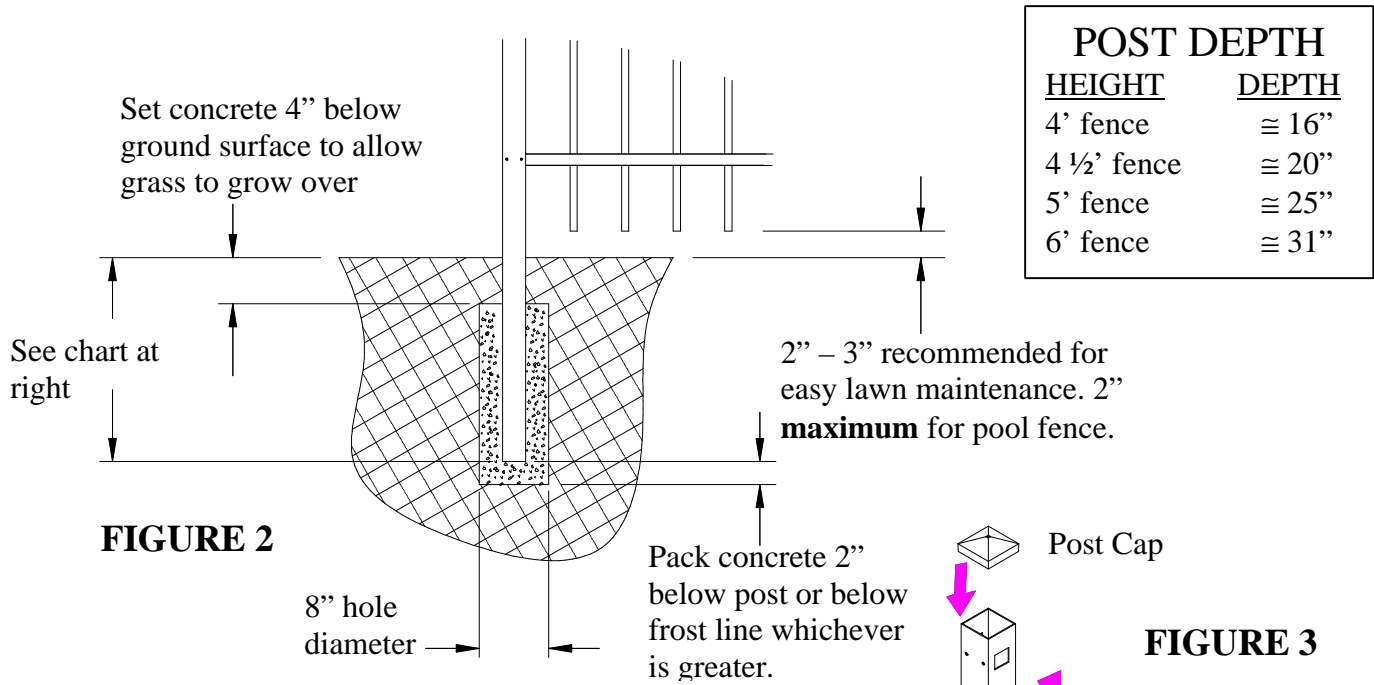

FIGURE 2
- 1.3. Proceed to dig post holes. Post center to center measurement will be 8' 4 15/16"* when everything is level and tight. See Figure 2 (on next page) for post hole depth.